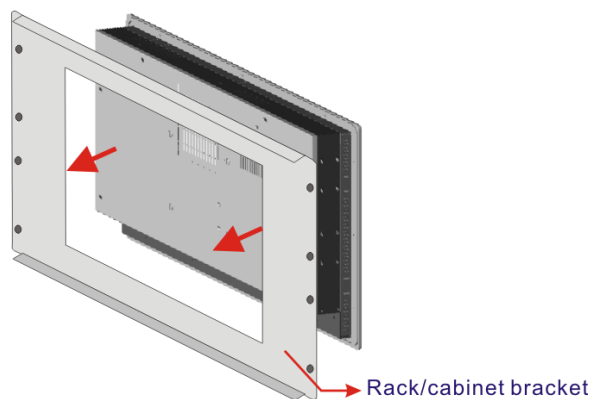

Figure 3-32: The Rack/Cabinet Bracket
Step 1: Slide the rear chassis of the PPC-3708A-N26 panel PC through the rack/cabinet bracket until the aluminum frame is flush against the front of the bracket (Figure 3-32).